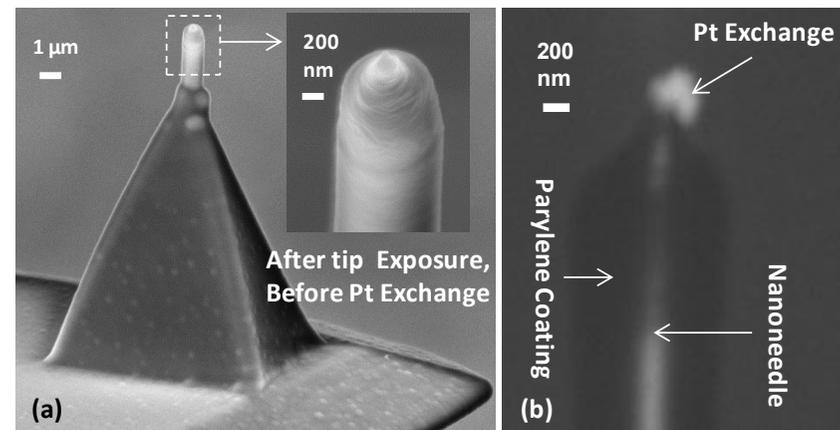

Figure 1: (a,b) SEM images of NaugaNeedles' Exposed End NeedleProbes (EENP), before (a), and after (b) Platinum exchange.
Figure 1 shows the SEM images of an EENP. The EENP is made by (1) growing an Ag_2Ga nanoneedles on standard AFM cantilevers, (2) coating the entire device with an insulated layer (e.g. Parylene), (3) selectively removing the Parylene from the end of the needle, (4) exchanging the exposed needle tip with platinum to enhance the chemical stability, (5) mounting the device on an insulated substrate (e.g. a copper clad), and (6) covering the entire device (except the cantilever area) with additional insulating resin (e.g. GC Insulating varnish, see Figure 2). The Pt